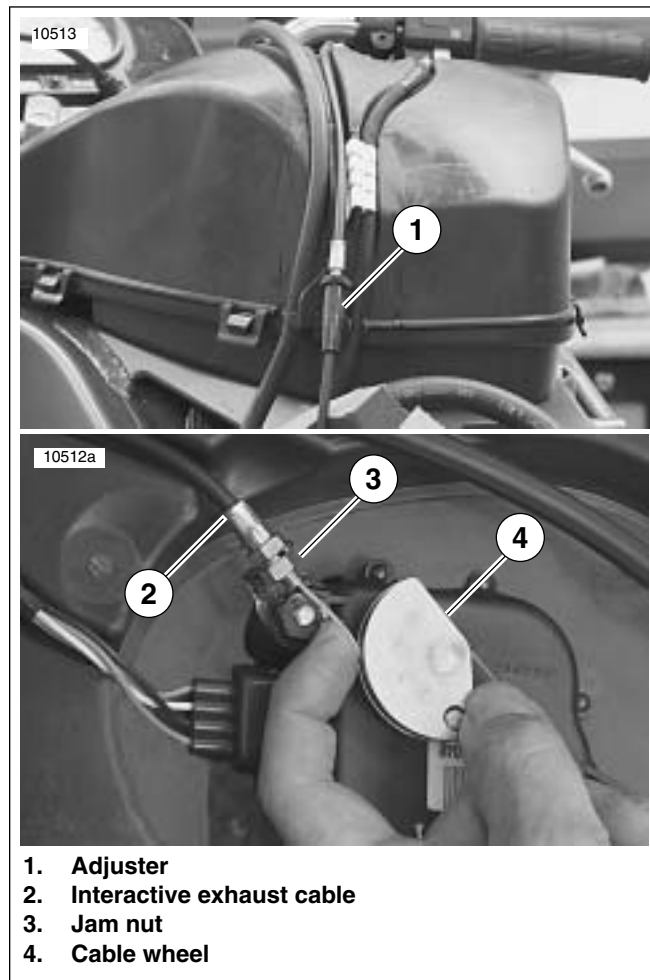

Figure 1-48. Interactive Exhaust Cable (Typical)
3. See Figure 1-48. Loosen jam nut (3).
4. Remove cable (2) from bracket and cable wheel (4).
- a. See Figure 1-48. Move cable with your fingers from side to side. There should be no more than 1/8 in. (3.2 mm) side play in cable in either direction with 1/4 in. (6.4 mm) maximum overall side play.
- b. Adjust cable as needed using cable adjuster (1).